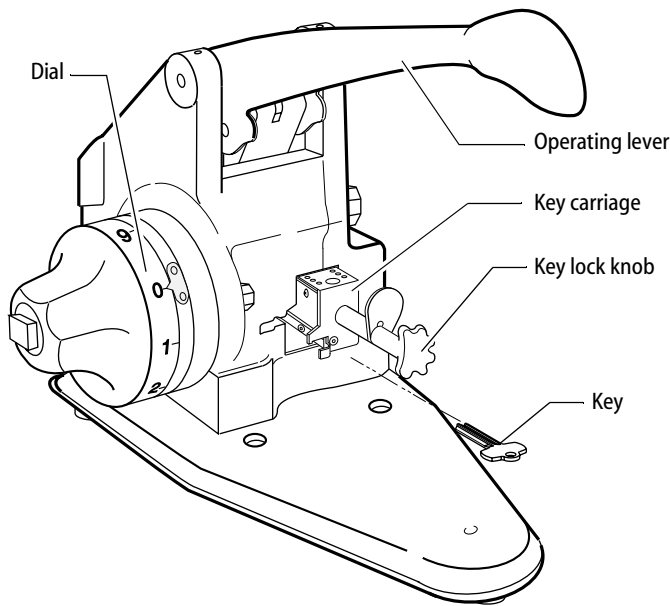

Figure 1 — Key combinator with various parts labeled
- 1 With the key carriage pulled out, set the dial to the zero cut. See figure 1.